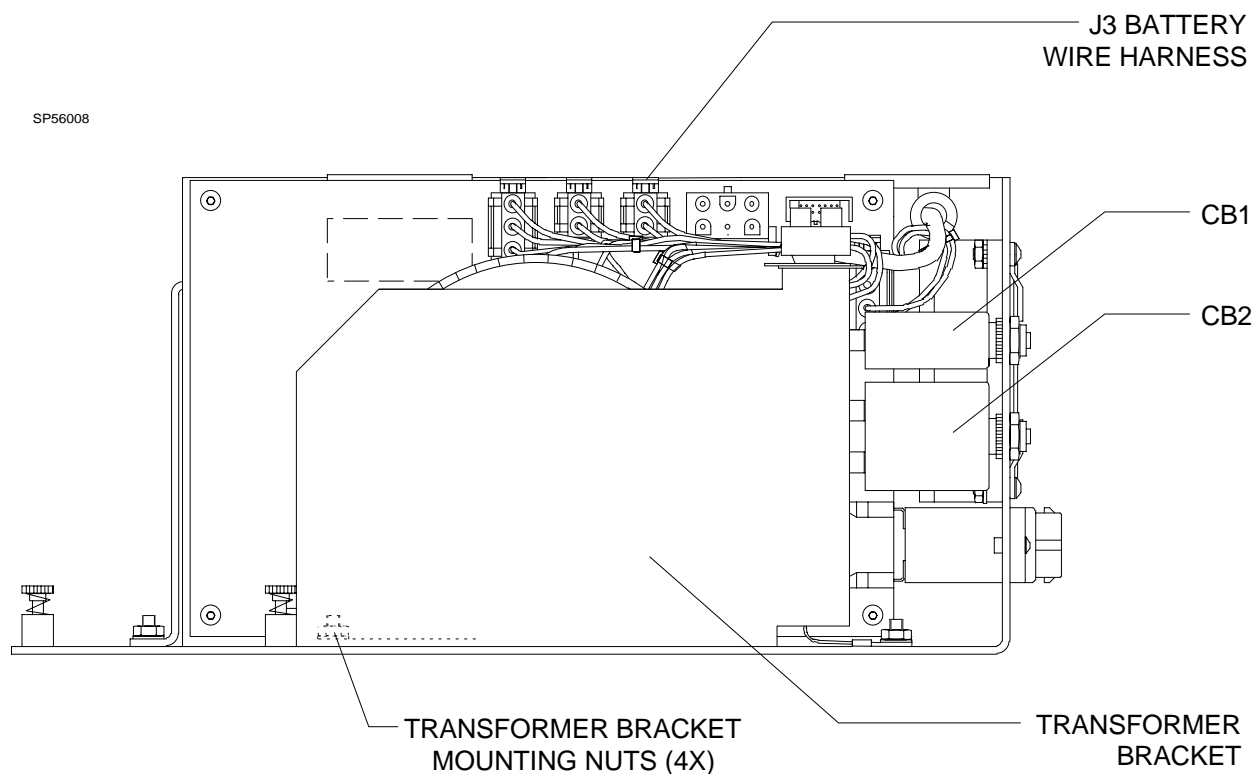

Figure 8: VITALERT 2000 CIRCUIT BREAKER LOCATION
13. Disconnect the battery wire harness from J3 on the power supply PCB assembly. See Figure 8.